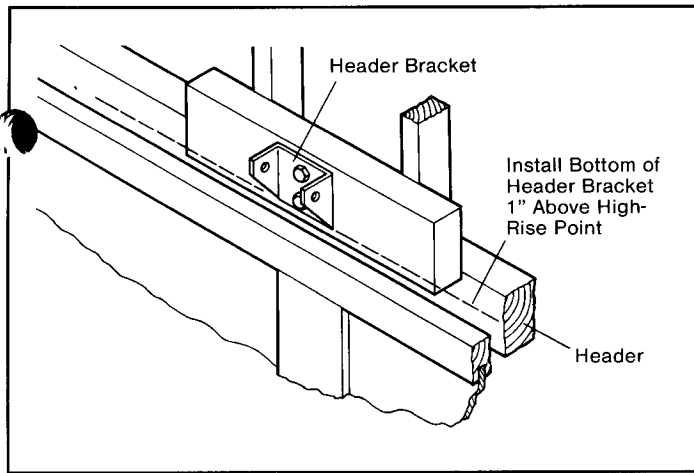

Figure 8
Step 14: If high-rise point is above door header, install 2"x6" mounting board at this point (see Figure 8).
Step 15: Use lag screws to mount bottom of header bracket one inch (1") above high-rise point on centerline of header (see Figure 8).